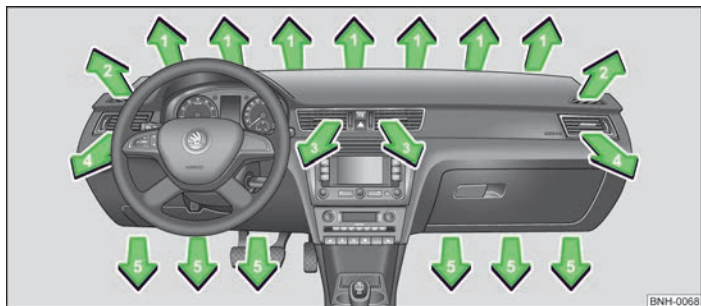
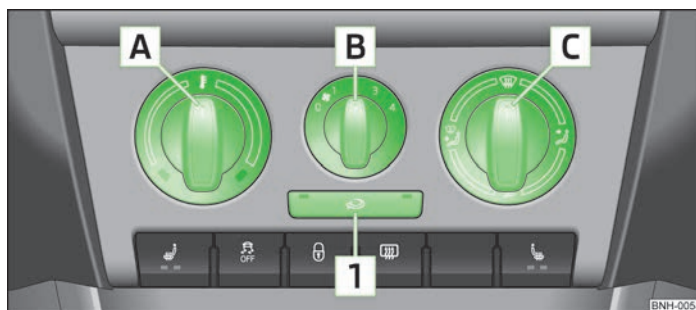

Fig. 58 Air outlet vents
Fig. 59 Heating: Control elements
- In order to change the strength of the air flow, swivel the horizontal lamellas with the aid of the moveable adjuster » Fig. 58.
Set the air supply to the individual vents with the air distribution control **C** » Fig. 59 on page 60. Air outlet vents **3** » Fig. 58 and **4** can also be opened or closed individually.
- Turn the control dial **A** » Fig. 59 to the right to increase the temperature.
- Turn the blower switch **B** » Fig. 59 into one of the positions, 1 to 4, to switch the blower on.
- The direction of the inlet air flow is controlled with air distribution regulator **C** » Fig. 59 » page 60.
- All controls apart from the blower switch **B** » Fig. 59 can be set to any desired intermediate position.
- Controls **A** » Fig. 59 on page 60, **B**, **C** and the button **1**.
- Air outlet vents **4** » Fig. 58 on page 60.
- We recommend that you leave the air outlet vents **3** » Fig. 58 on page 60 in the opened position. ■
- Press the button **1** » Fig. 59 on page 60 and the warning light in the button illuminates.
- Press the button **1** » Fig. 59 on page 60 again - the warning light in the button goes out.
Recirculated air mode is switched off automatically if the air distribution control **C** » Fig. 59 on page 60 is turned to position . Recirculated air mode can be switched on again from this setting by repeatedly pressing the button **1**. ▶
- We recommend that you leave the air outlet vents **3** » Fig. 58 on page 60 in the opened position.